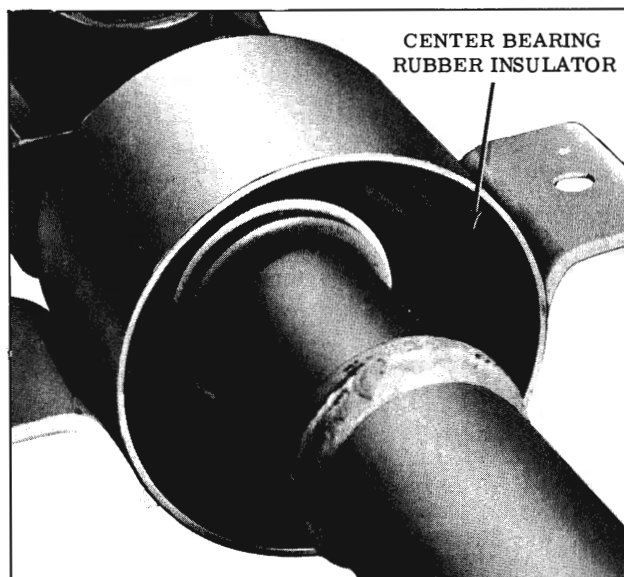

Fig. 6-140 Center Bearing Support
1. Position center bearing support on bearing insulator making certain that edges of insulator do not fold or roll over as shown in Fig. 6-140.